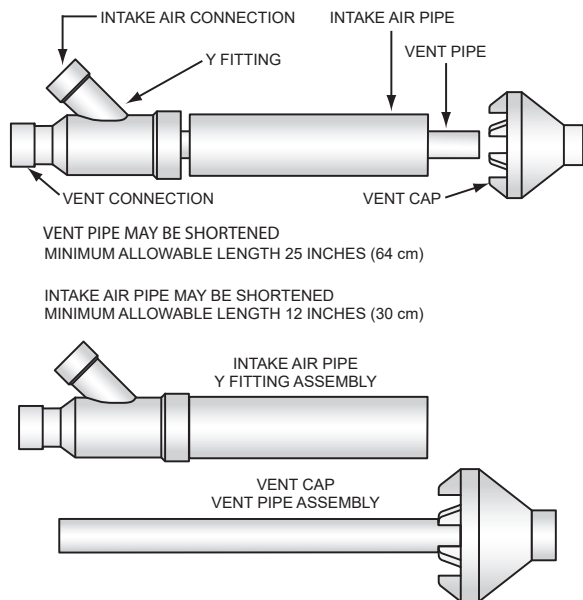
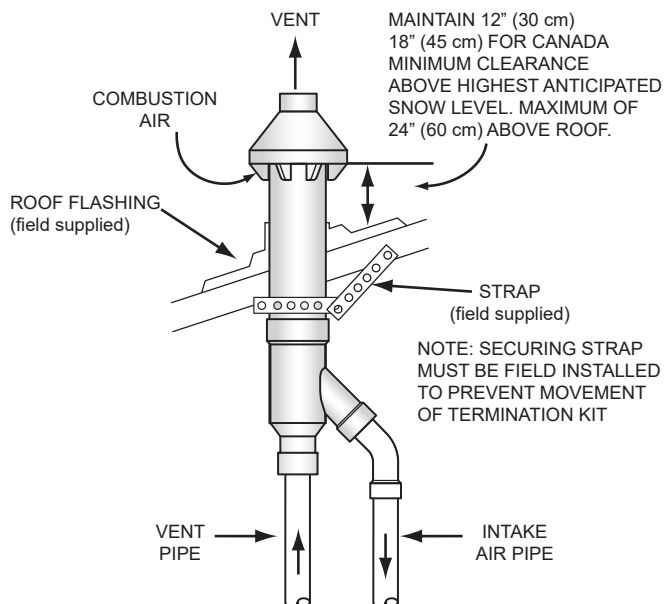
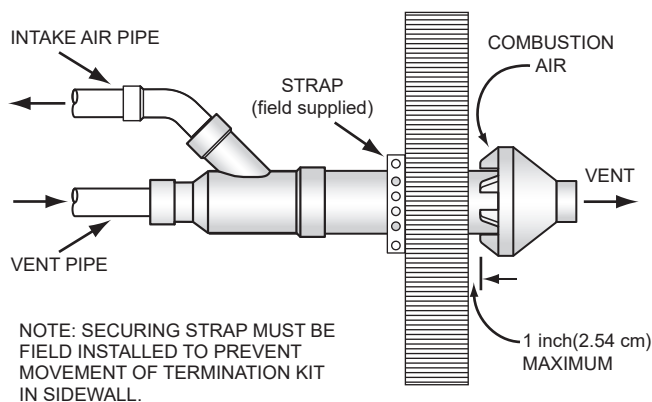

Figure 31. Concentric Termination Kit
Figure 32. Concentric Termination - Vertical Installation
Figure 33. Concentric Termination - Side-Wall Installation
- When installing a concentric termination vertically through the roof; ensure that all exterior vertical clearance requirements for the concentric termination, shown in **Figure 32** (page 41) are being maintained. These clearances and those cited by local and national codes must be maintained.
- See **Figure 31** (page 41) for the minimum lengths allowed for the concentric termination.
Assemble and install the concentric termination. Refer to **Figure 31**, **Figure 32** and **Figure 33** for these instructions: